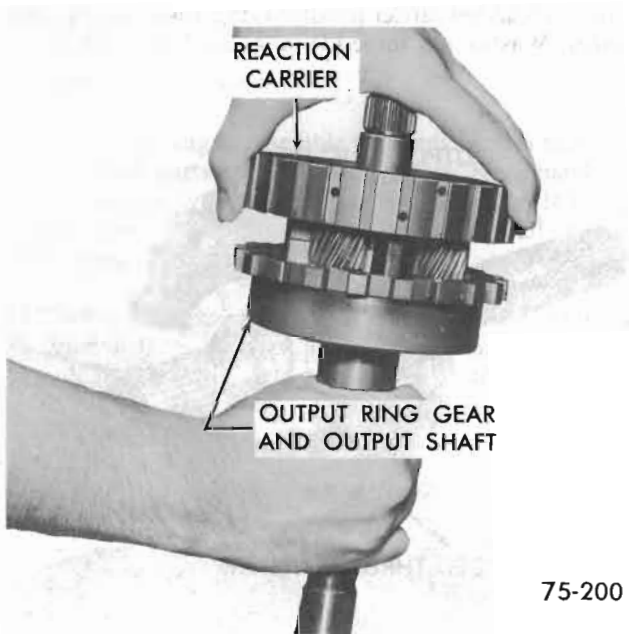

Figure 75-230
4. Install reaction carrier assembly into output ring gear and shaft assembly. See Figure 75-230.